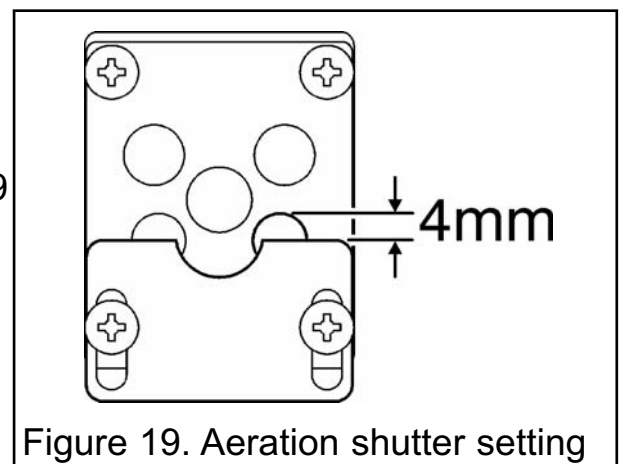

Figure 19. Aeration shutter setting
1. The aeration shutter is factory set and should not require adjustment. If the shutter is not as shown in figure 19 and requires adjustment, loosen the two aeration shutter screws, slide the aeration shutter to the position shown in figure 19 and tighten the fixing screws.